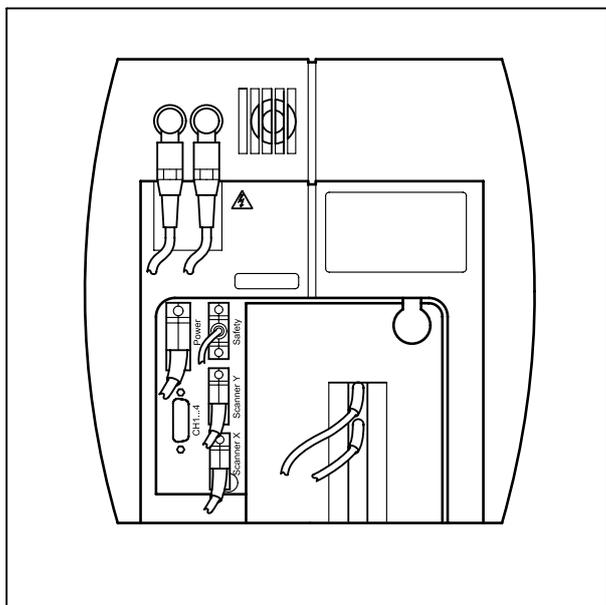

Fig. 1-13 Rear view of META scan head
- LSM 510 META scan head: Remove the blue cover from the back of the scan head (Fig. 1-13 and Fig. 1-14).